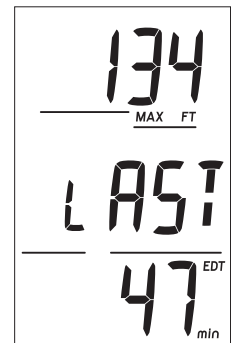

Fig. 4 - NORM SURF ALT 1
**NORM SURF ALT 1**, information includes (Fig. 4):